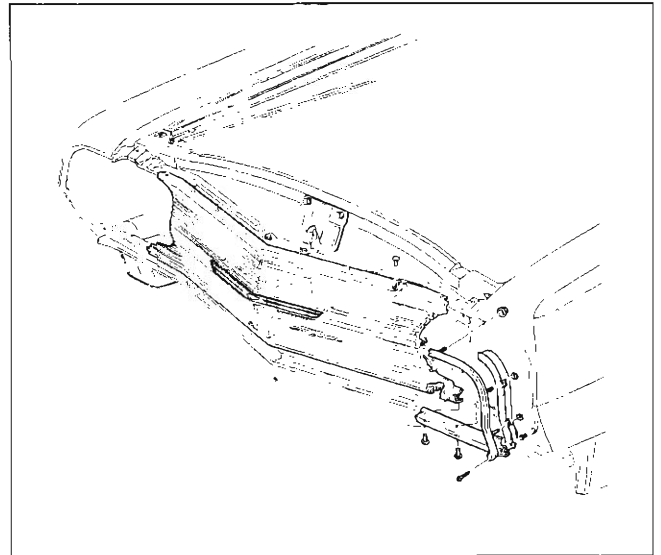

Fig. 5—Grille Assembly—Chevelle
**GRILLE ASSEMBLY—CHEVELLE (See Fig. 5)**